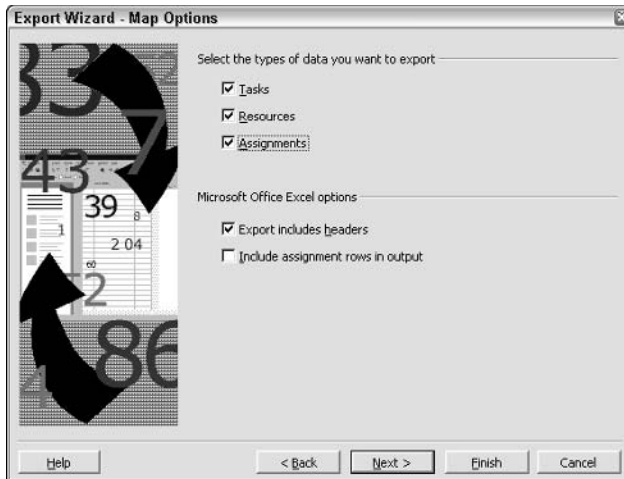

Figure 26-2: Select the type of data to export in the Map Options dialog box.
9. Select the type of data to export, as shown in Figure 26-2. The boxes that you select determine which wizard screens will subsequently appear when you click Next.
If you selected the Resources and the Assignments check boxes as well as the Tasks check box in the Map Options dialog box (shown previously in Figure 26-2), when you click Next, the Export Wizard displays additional boxes that are almost identical to the Task Mapping dialog box, but for each of these data types.